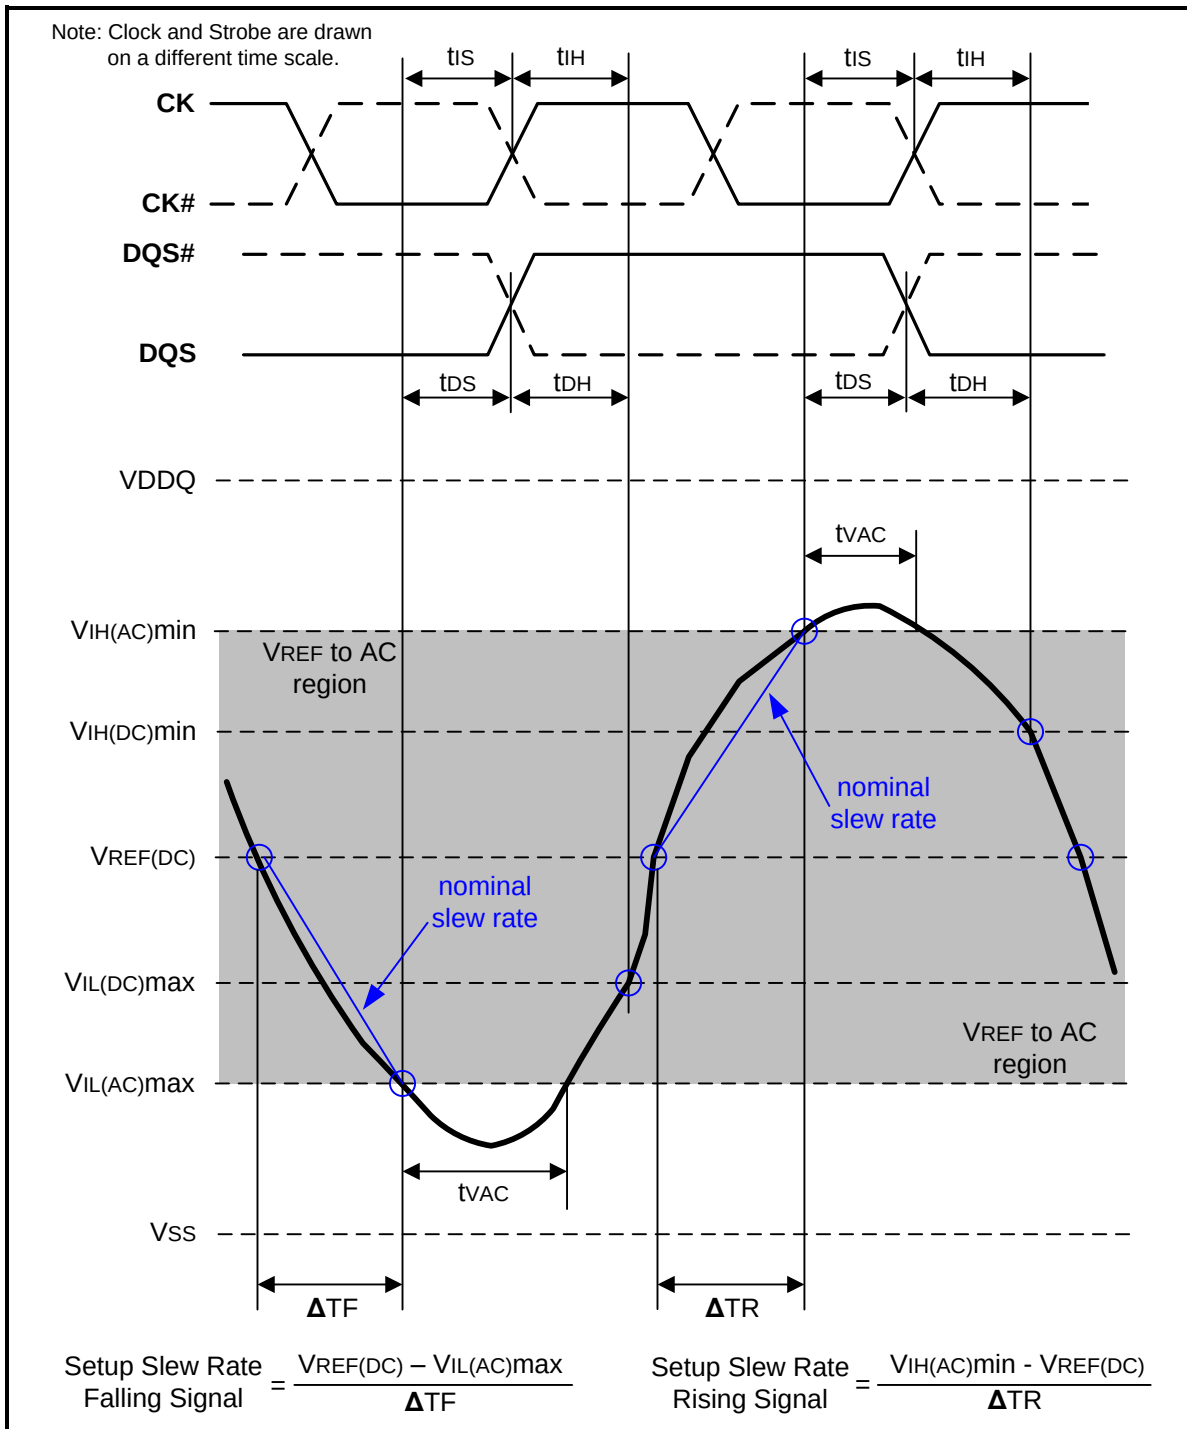

Figure 107 – Illustration of nominal slew rate and t_{vac} for setup time t_{ds} (for DQ with respect to strobe) and t_{is} (for ADD/CMD with respect to clock)
Setup (t_{IS}) nominal slew rate for a rising signal is defined as the slew rate between the last crossing of $V_{REF}(\text{DC})$ and the first crossing of $V_{IH}(\text{AC})_{\text{min}}$. Setup (t_{IS}) nominal slew rate for a falling signal is defined as the slew rate between the last crossing of $V_{REF}(\text{DC})$ and the first crossing of $V_{IL}(\text{AC})_{\text{max}}$. If the actual signal is always earlier than the nominal slew rate line between shaded 'VREF(DC) to AC region', use nominal slew rate for derating value (see Figure 107). If the actual signal is later than the nominal slew rate line anywhere between shaded 'VREF(DC) to AC region', the slew rate of a tangent line to the actual signal from the AC level to $V_{REF}(\text{DC})$ level is used for derating value (see Figure 109).
Setup (tDS) nominal slew rate for a rising signal is defined as the slew rate between the last crossing of VREF(DC) and the first crossing of VIH(AC)min. Setup (tDS) nominal slew rate for a falling signal is defined as the slew rate between the last crossing of VREF(DC) and the first crossing of VIL(AC)max (see Figure 107). If the actual signal is always earlier than the nominal slew rate line between shaded 'VREF(DC) to AC region', use nominal slew rate for derating value. If the actual signal is later than the nominal slew rate line anywhere between shaded 'VREF(DC) to AC region', the slew rate of a tangent line to the actual signal from the AC level to VREF(DC) level is used for derating value (see Figure 109).